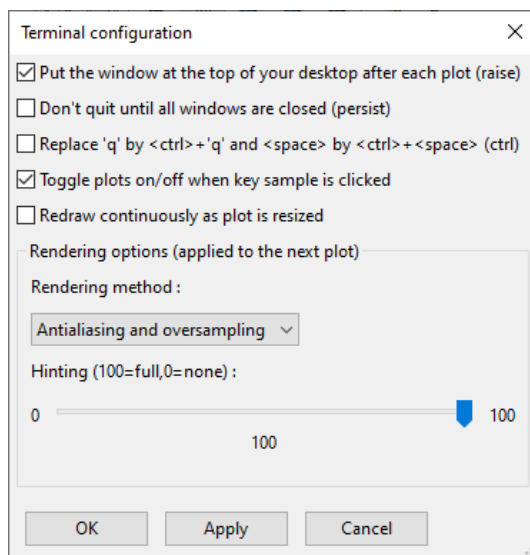

Fig. 5.3: Gnuplot configuration window.
- Open a *gnuplot* configuration window similar to that in **Fig. 5.3** .